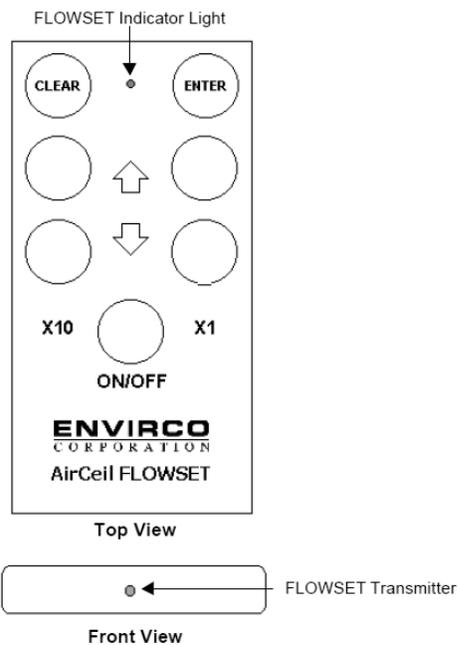

Figure 4: AirCeil™ FlowSet IR Remote Controller
- The button to the left of the up arrow quickly increases to the airflow index by increments of ten (see Figure 4).